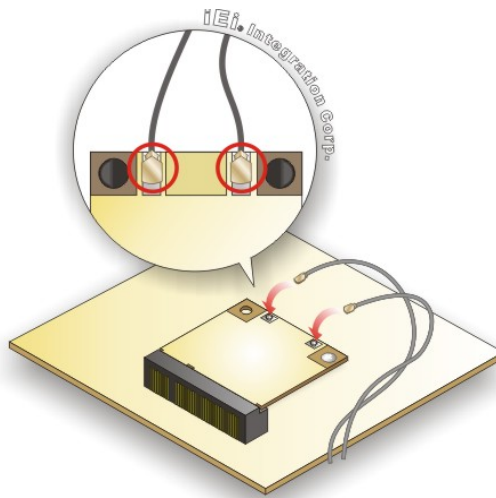

Figure 3-6: Connecting RF Cables
- Step 5:** Connect the RF cable(s) from the system to the antenna connector(s) on the WLAN/WWAN module (**Figure 3-6**).